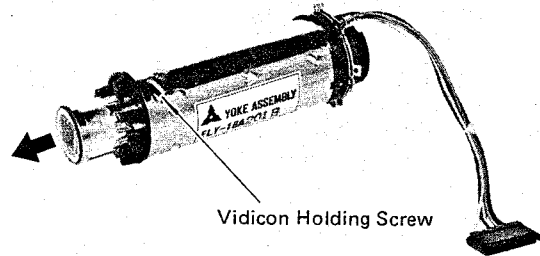

Fig. 4-1
- Loosen the vidicon holding screw and push the vidicon out (in the direction of the lens). (Fig. 4-1)